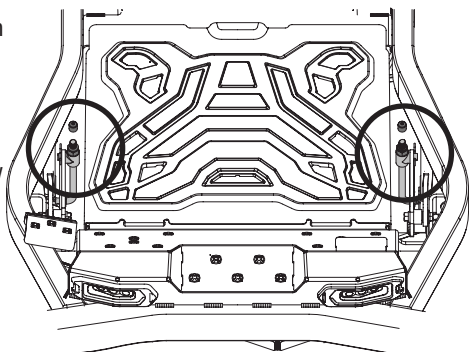

Figure 45
- a. Remove the end cap on both front deck height adjust rods and save for later re-installation. See Figure 45.
- b. Rotate both front nuts clockwise to raise the front deck pitch or counter-clockwise to lower the front deck pitch, depending on the needed adjustment. Adjust each nut equally. See Figure 45.